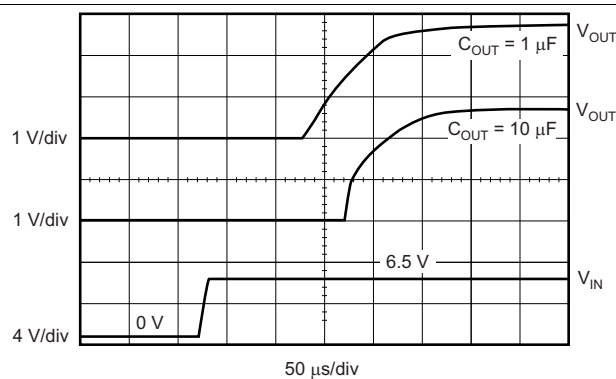

Figure 29. Turn-On Response
Note that for fastest startup, apply V_{IN} first, then the enable pin (EN) driven high. If EN is tied to IN, startup is somewhat slower; see Figure 29 in the Typical Characteristics section. The quick-start switch is closed for approximately 135 μ s. To ensure that C_{NR} is fully charged during the quick-start time, use a 0.01- μ F or smaller capacitor.